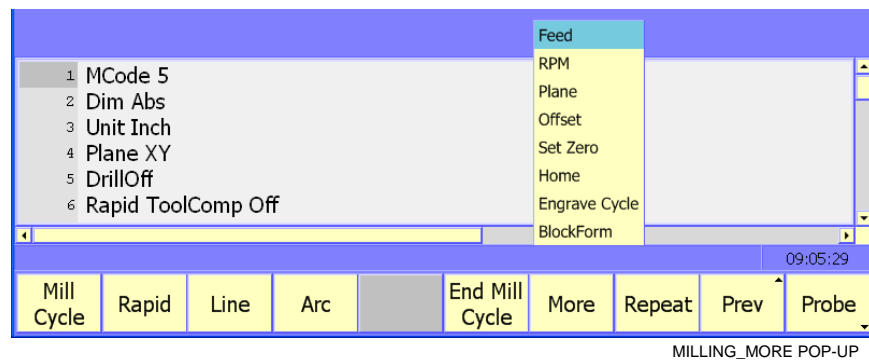
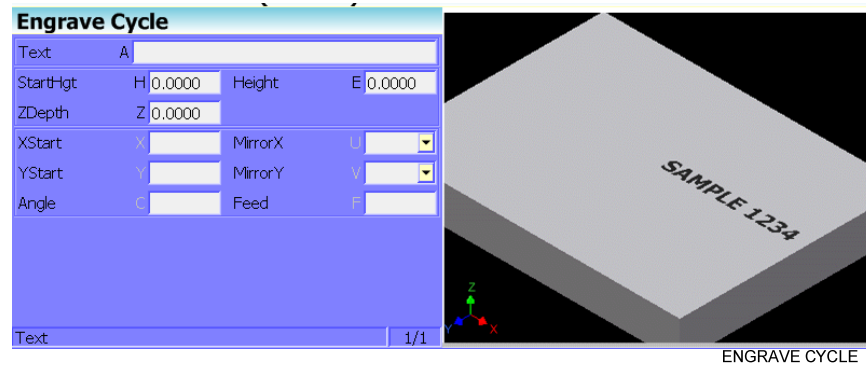

Figure 4-27, Milling (F5)>More (F7) Pop-up Menu
Figure 4-28, Engrave Cycle Graphic Menu
1. In Edit mode, press **Milling (F5)** and **More (F7)** to display the More pop-up menu, **Figure 4-27**. Highlight **Engrave** and press **ENTER** to display the Engraving Cycle Graphic Menu, **Figure 4-28, Engrave Cycle Graphic Menu**.